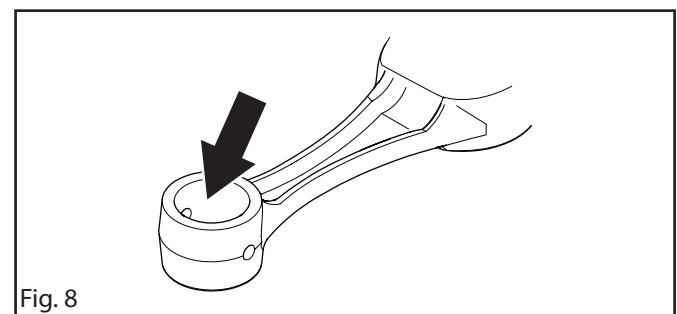

Fig. 8
2. Check that the bearing surfaces for the small-end do not have any score marks or are discoloured. See figure 8.